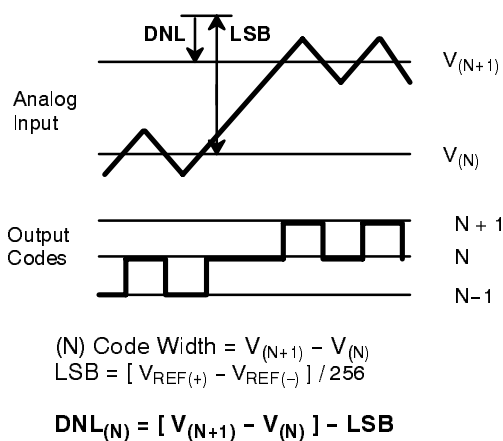
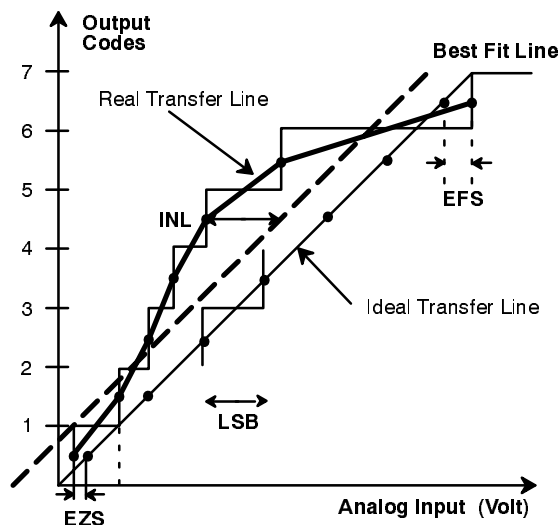

Figure 3. DNL Measurement
Figure 4. INL Error Calculation
- ¹ Tester measures code transitions by dithering the voltage of the analog input (V_{IN}). The difference between the measured and the ideal code width ($V_{REF}/256$) is the DNL error (Figure 3.). The INL error is the maximum distance (in LSB's) from the best fit line to any transition voltage (Figure 4.). Accuracy is a function of the sampling rate (F_S).